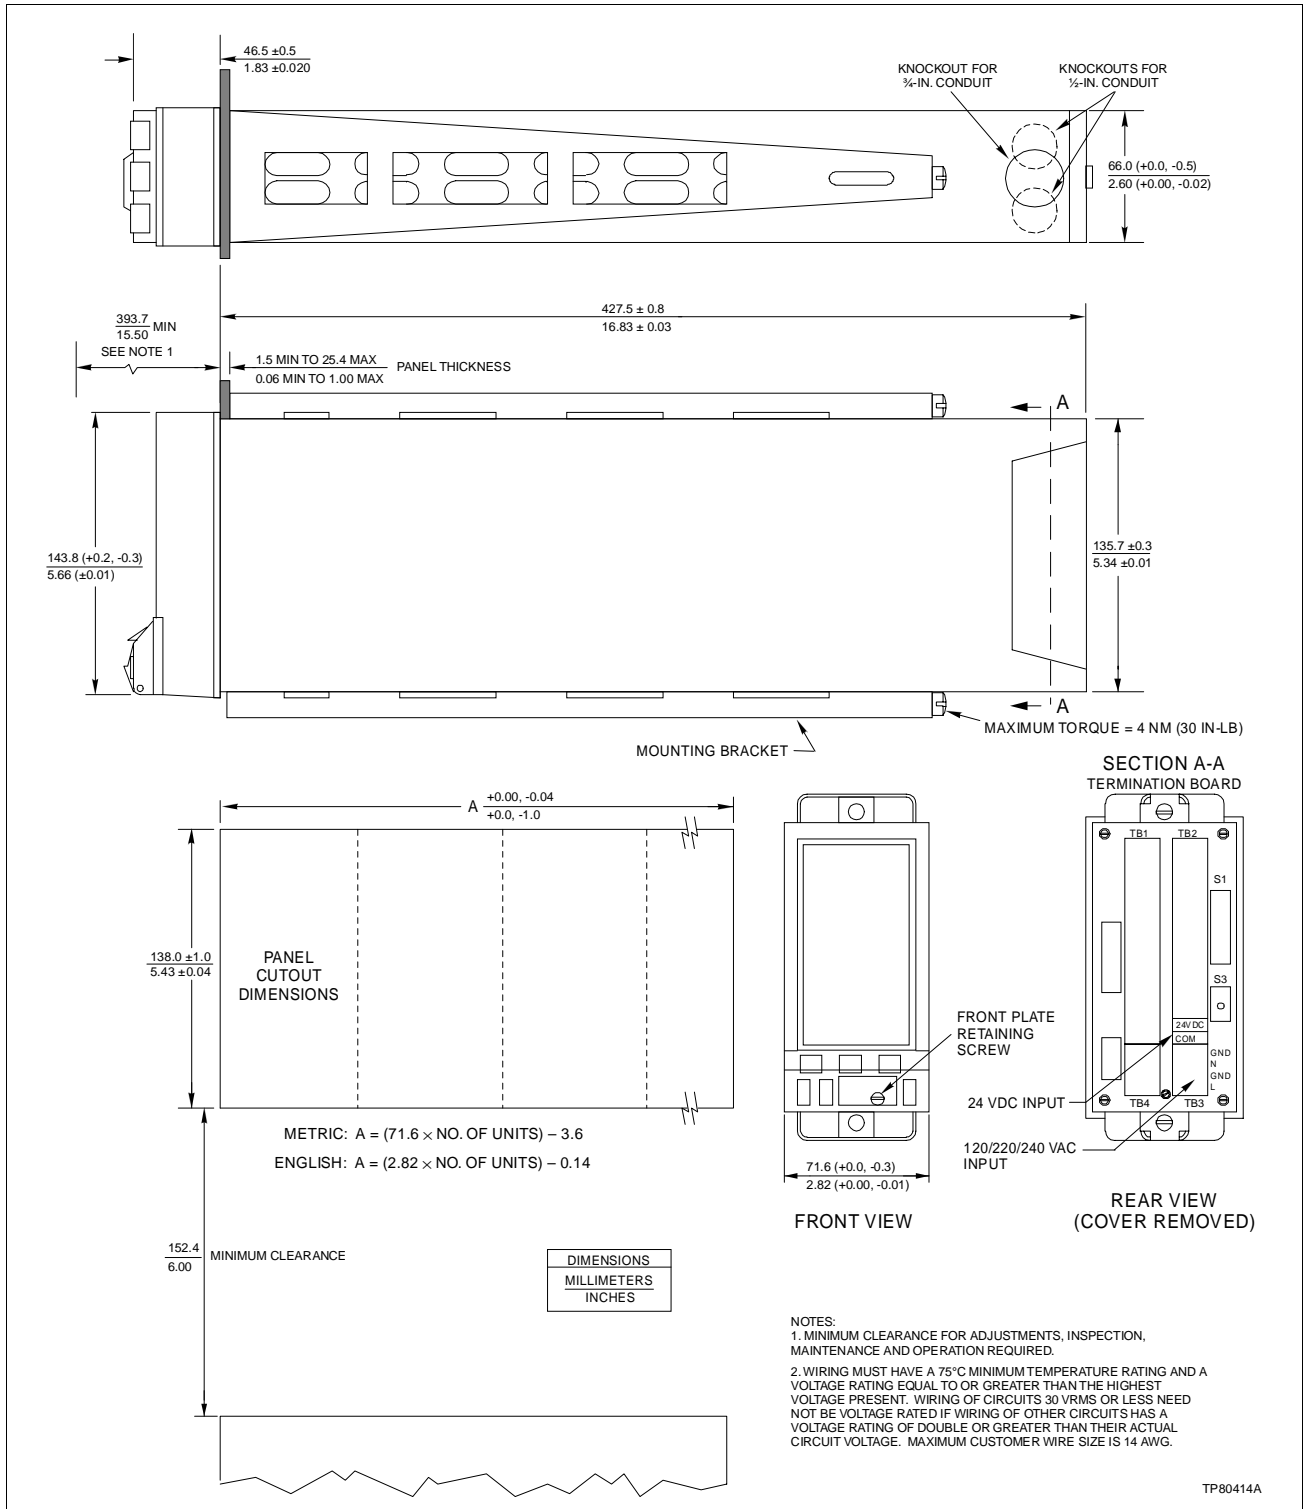

Figure 2-1. External and Mounting Dimensions
The controller can be flush panel mounted, either as a single unit or side-by-side for multiple units. Outline dimensions and panel cutout requirements are shown in Figure 2-1.
2. Slide the housing through the panel opening. Support the weight of the case and reassemble the mounting brackets on the housing, making certain that the bushing in the mounting bracket assembly is positioned in the mounting hole on the housing (Fig. 2-1). Tighten the bracket screws until the housing is secure in the panel.